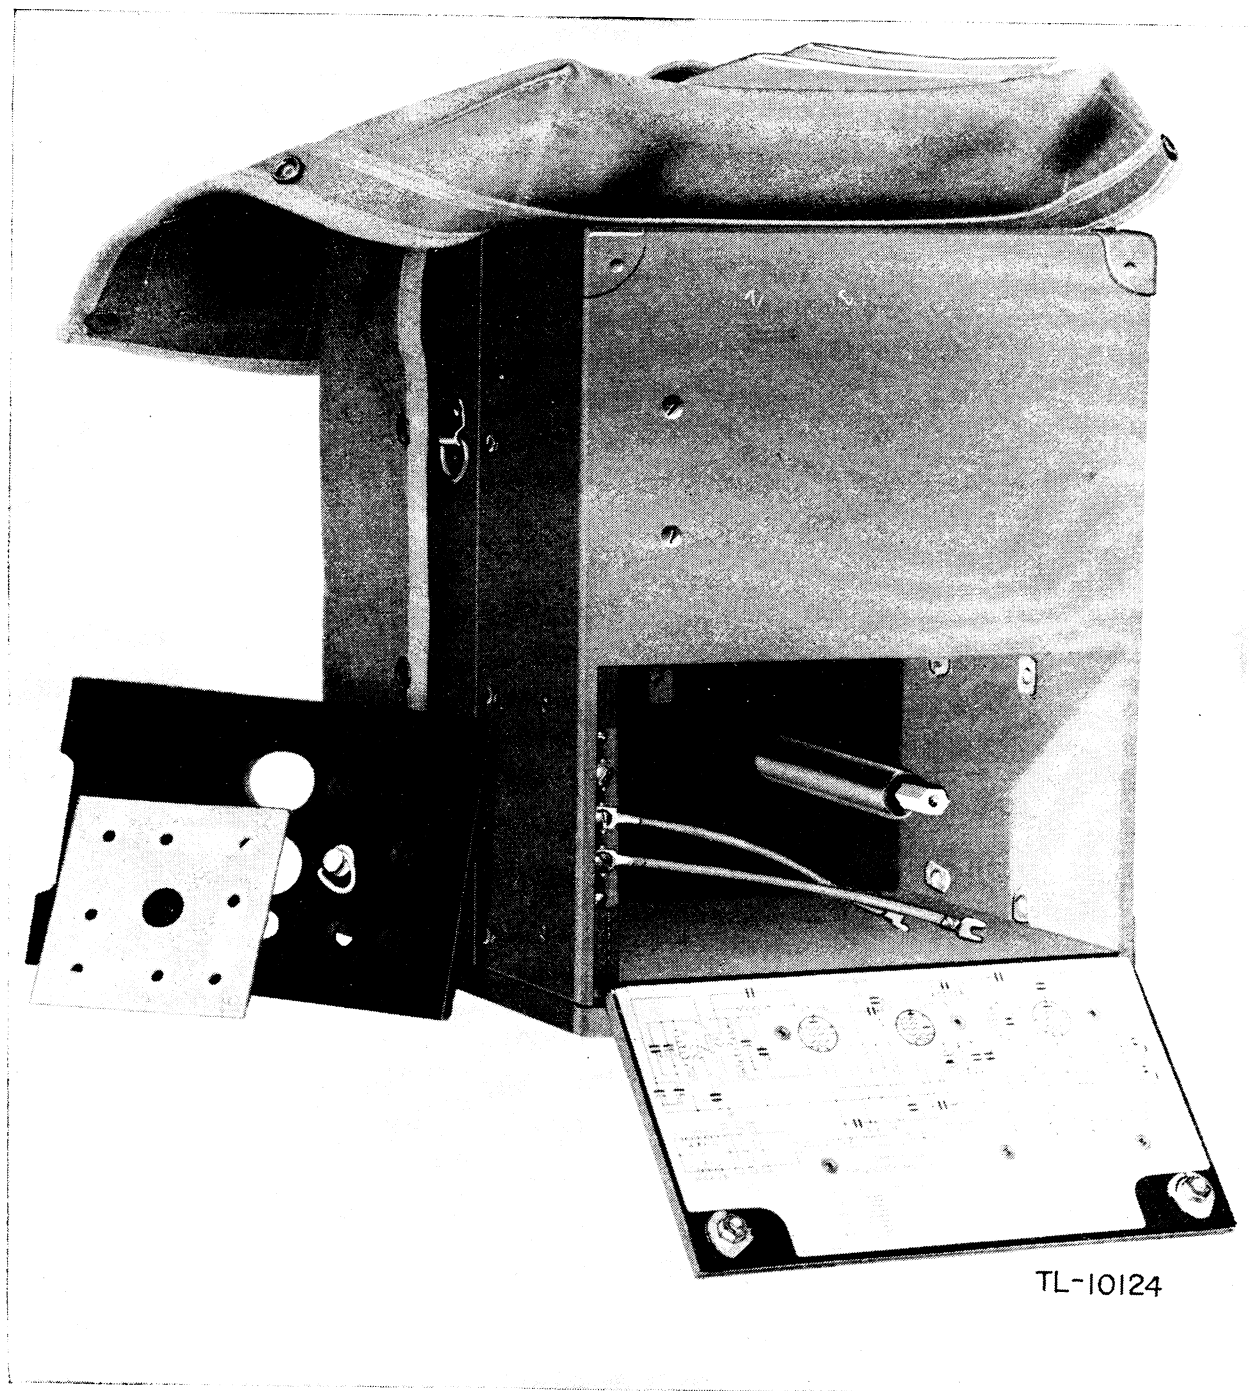

Figure 11. Battery compartment, wooden cabinet, showing fiber connecting board and A battery leads.
(3) The use of a fiber connecting board together with a wiring harness and battery retaining board as supplied with all wooden cabinet models with the exception of Frequency Meter BC-221-Q, b (1) above. These items are supplied with BC-221-AA (with wooden case), BC-221-AC, BC-221-AE, BC-221-AF, BC-221-AG, BC-221-AH, BC-221-AJ, BC-221-AK, and BC-221-AL. (See fig. 11.)